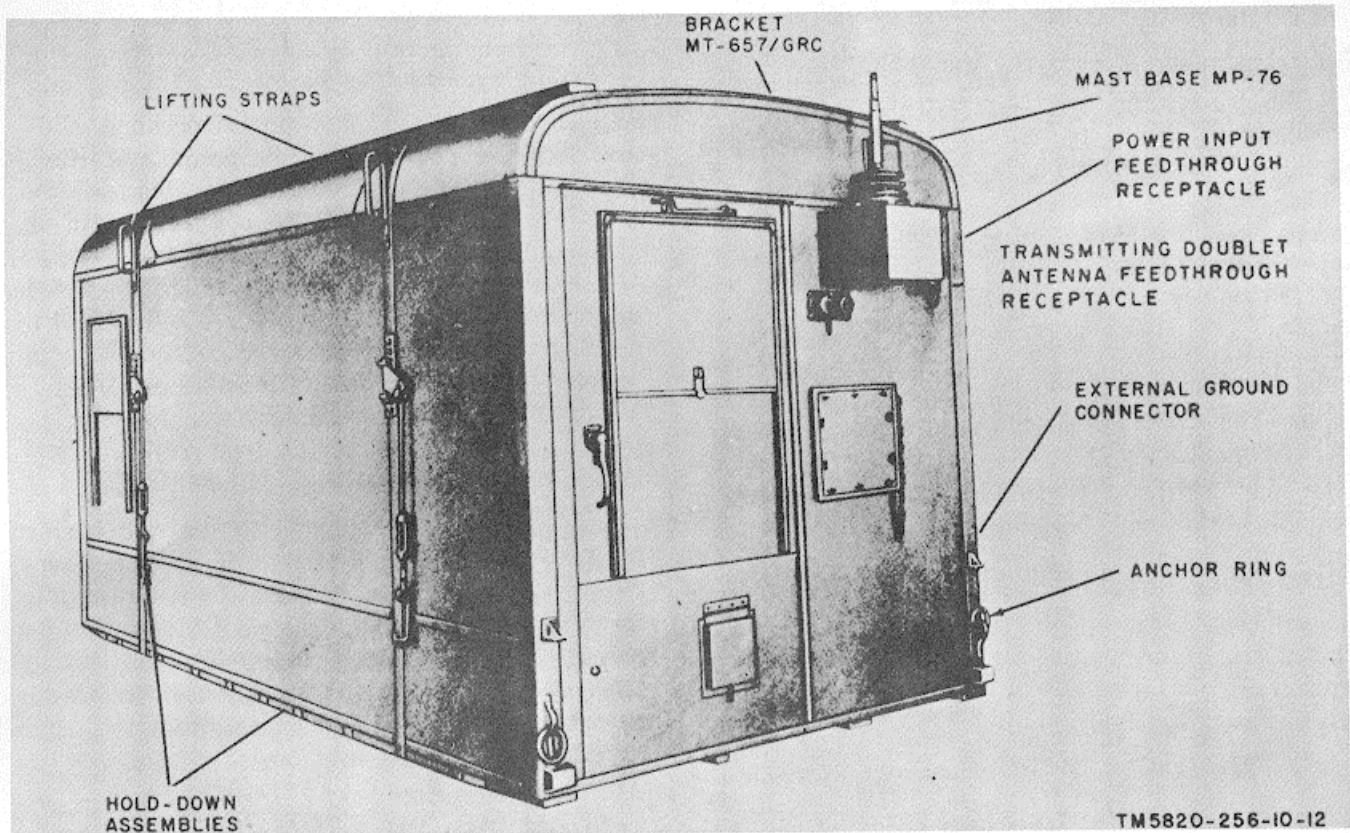

Figure 1-3. Shelter, Electrical Equipment S-56(*)/G, rear oblique view.
c. The shelter is mounted on a standard 80- by 144-inch cargo truck body for transportation or mobile operation. Lifting straps (fig. 1-3) are used when hoisting the shelter onto the truck. Two holddown assemblies on each side of the shelter secure it to the cargo truck body. Four anchor rings secure the shelter to the cargo truck if the truck bed is a wooden platform.